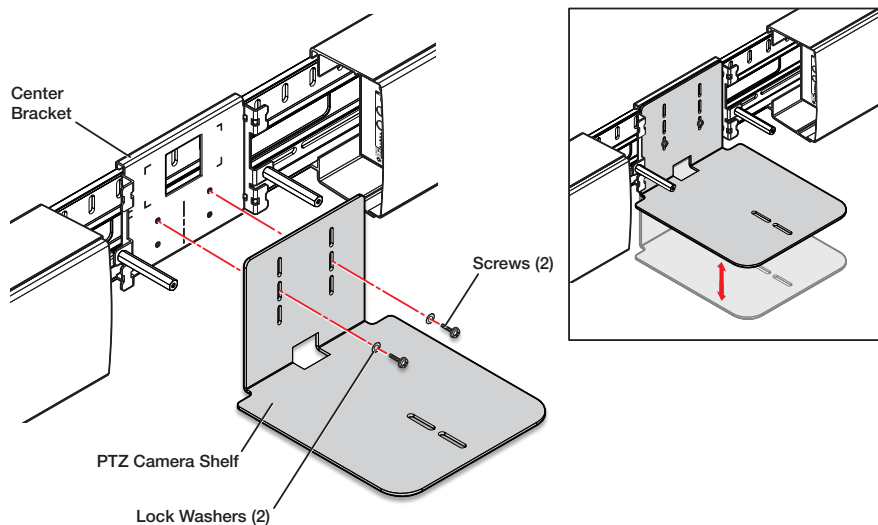

Figure 26. Attaching the PTZ Camera Shelf
1. Install the PTZ camera shelf by attaching it to the center bracket using two screws and lock washers with the screws inserted through vertical slots on the shelf and into two mounting holes in the bracket (see figure 26). There are two pairs of available holes in the bracket. The shelf height can be adjusted by positioning the screws in the shelf slots.